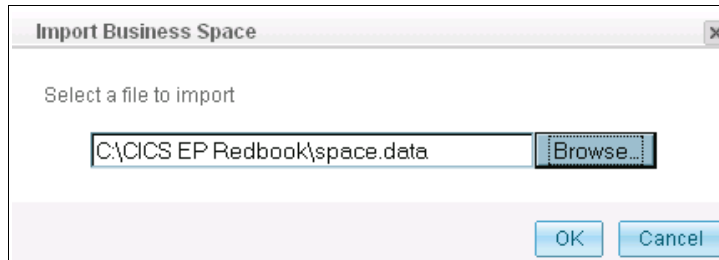

Figure 8-85 Browse to business space export file
4. Browse to the space.data (business space export file) from the Additional Materials. See Figure 8-85.